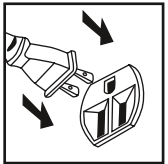

Fig. 6
6. Plug in the power cable in the power supply (Fig. 6)